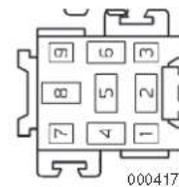

Figure 12-8
12 V is supplied by fuse F3 to terminal 30 (**Figure 12-8, (4)**). An internal connection connects one end of the winding to terminal 30. When the key switch is turned ON, a 12 V signal is sent to ECU terminal 27. The ECU then completes the winding ground circuit (terminal 85) through ECU terminal 232.